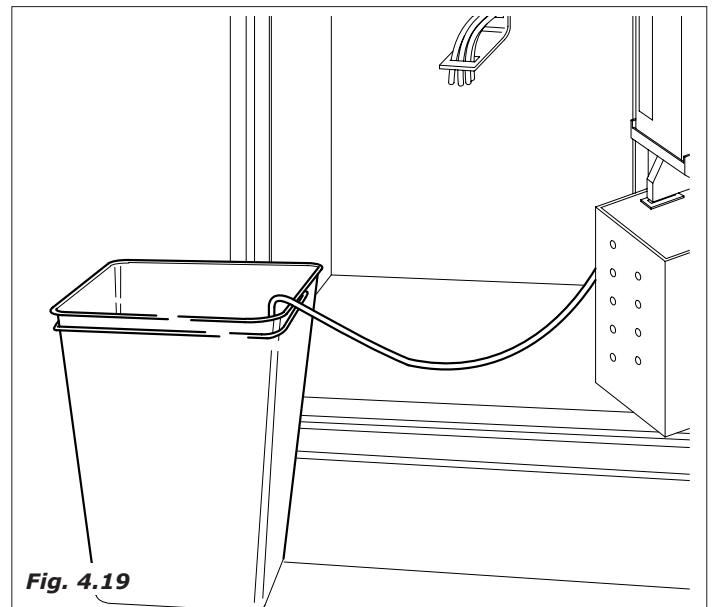

Fig. 4.19
- Position the reservoir drain hose in the liquid waste bin, in the (Fig.4.19).